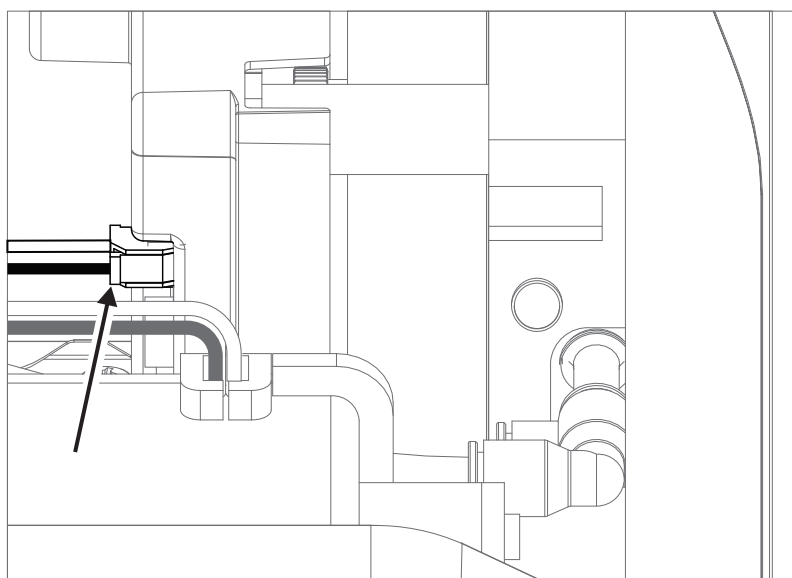

Figure 7-20: Disconnect power cable
- To disconnect the red and black power cable, press the lever on the connector towards the top of the detector to unlatch the connector (Figure 7-20). The other two cables do not have a latch.